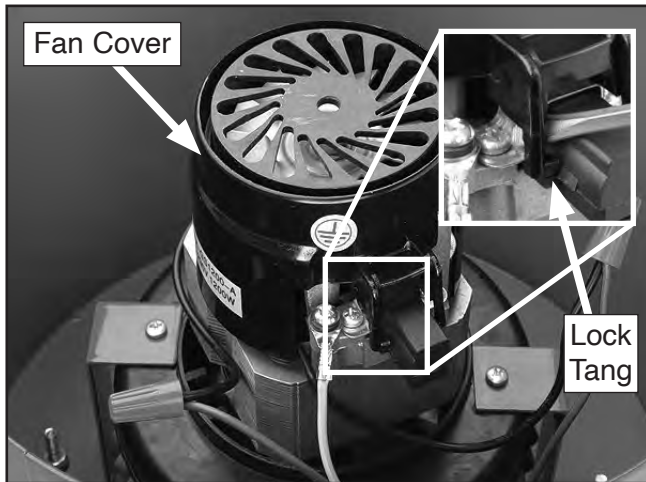

Figure 30. Brush removal.
4. While pulling fan cover upwards, use standard screwdriver to slightly pry out cover lock tangs (see **Figure 30**) and remove cover from the motor.